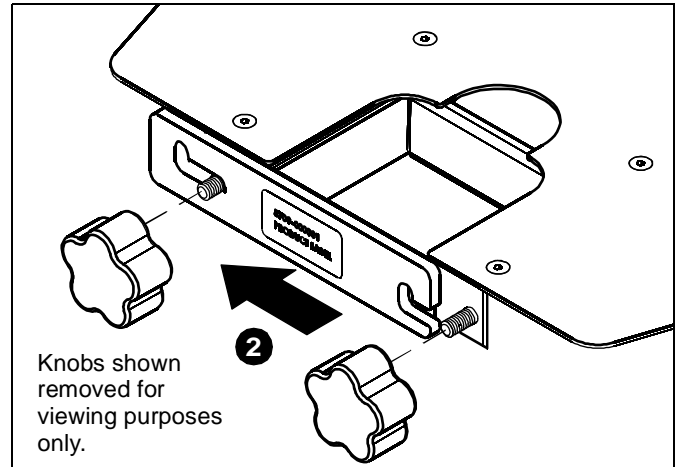

Figure 3
2. Slide bracket to the left until it disengages from the shelf's right stud. (See Figure 3)